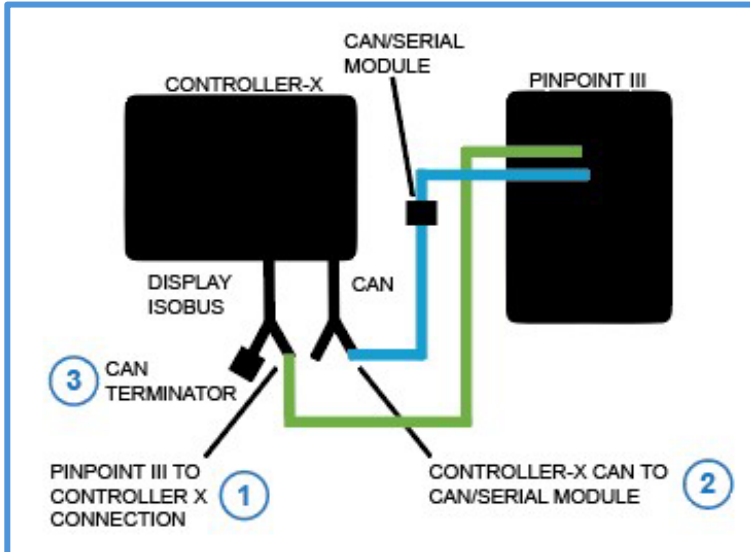

Figure 6 - CAN/Serial Module to Controller-X CAN Connections
Figures 6 and 7 above identify the required connections that need to be made for the systems to communicate.
2. From the PinPoint III chassis harness, remove the CAN terminator and connect the Display BUS connection here (**Figures 6 & 7, Item 1**). **Ignition power is required here.**
3. Locate the Controller-X spray CAN harness labeled CAN (**Figures 6 & 7, Item 2**)
5. Reconnect the CAN terminator removed earlier and plug into the remaining connection on the Display ISOBUS connection (**Figures 6 & 7, Item 3**).